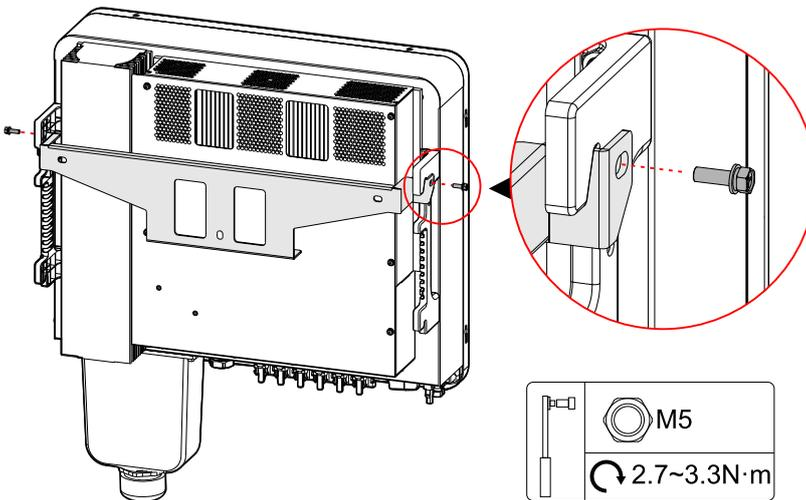

Figure3-14 Fasten the inverter
Step 6 Fasten the inverter to the installation holder by the equipped stainless steel combination bolt M5\*16 and then lock it, as shown in Figure3-14.